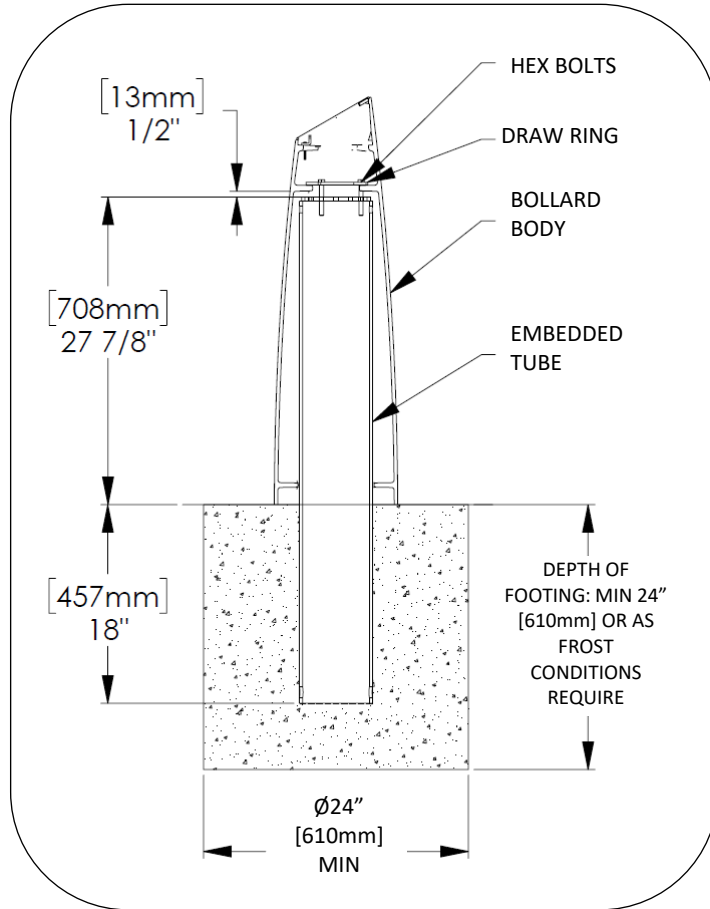
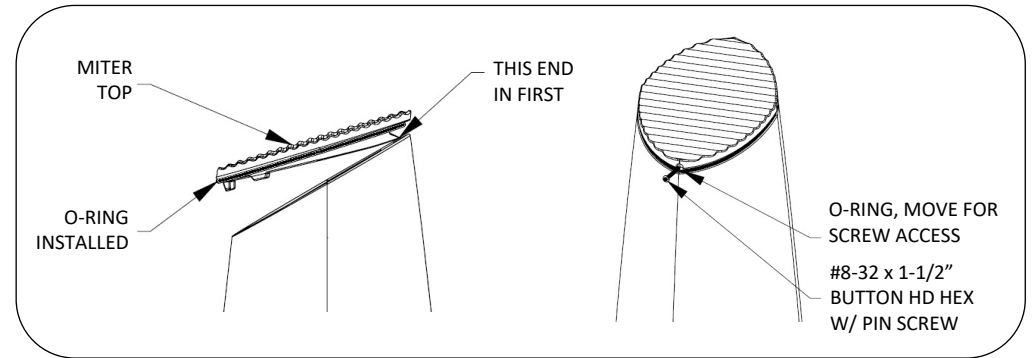

FIG. 1 – EMBEDDED FOOTING DETAIL
FIG. 2 – INSTALL MITER TOP
1. Embed tube in concrete to depth shown in Fig. 1. Tube must be vertical. Brace unit until concrete has cured.
4. Install draw ring, see Fig. 1. Draw ring should rest on internal tabs of bollard body. Align draw ring holes with threaded holes on embedded tube.
5. Reinstall (4) hex bolts, tightening in an alternate pattern. **Do not overtighten.**
6. Install the top casting, see Fig. 2. **Do not overtighten screws.**